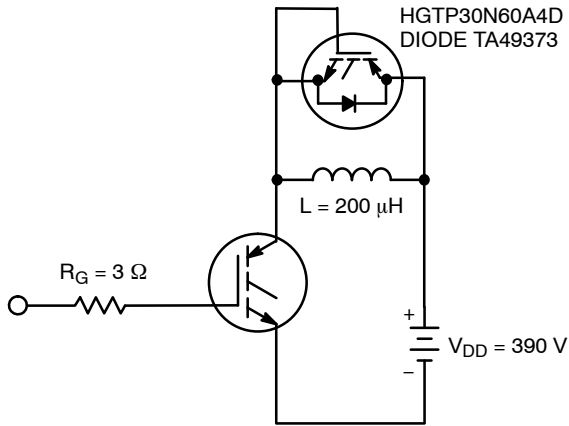

Figure 20. Inductive Switching Test Circuit
2. Values for two Turn-On loss conditions are shown for the convenience of the circuit designer. E_{ON1} is the turn-on loss of the IGBT only. E_{ON2} is the turn-on loss when a typical diode is used in the test circuit and the diode is at the same T_J as the IGBT. The diode type is specified in Figure 20.